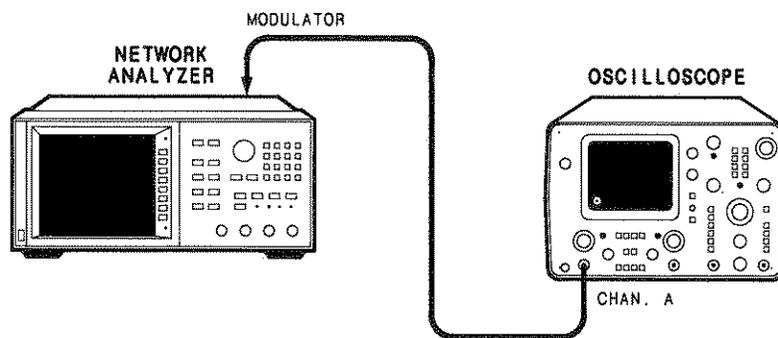

Figure 4-4. Modulator Drive Test Setup
1. Connect the HP 8757A to the oscilloscope as shown in Figure 4-4.